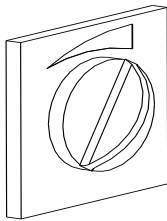

Fig. 6: damper flap
- Open the damper flap, if present, completely (see Fig.6).
- As soon as the logs have burnt well all around after a few minutes (see Fig.8), close the combustion air flap by approx. 50% (set the control to the middle position - see page 1 / Fig.2) or close the damper flap, if present, by 50% (handle to the left - see Fig.6).
- Open the door slowly. This prevents turbulence, which would allow fumes to escape. Fully open the damper flap, if present (see page 3 / fig. 6).